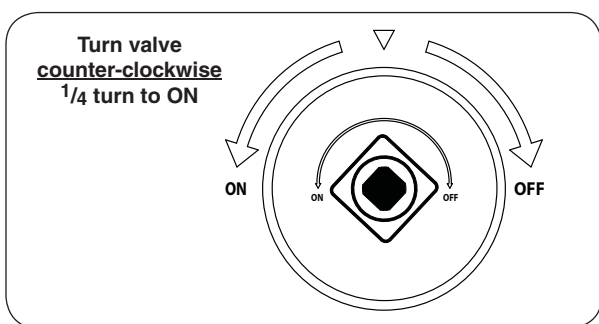

Fig. 41-2 ON/OFF key valve detail
2. Turn the ON/OFF key valve counter-clockwise a $\frac{1}{4}$ turn to the **ON** position (Fig. 41-2).